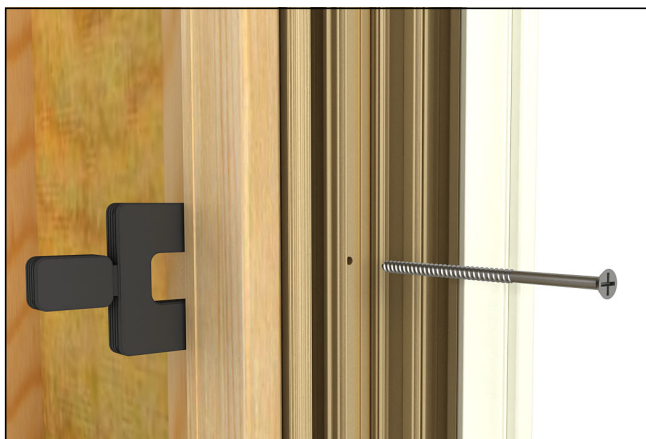

Figure 6
5. Center the window in the opening. Jamb need to be straight and level. Apply #8 X 3" screws until snug through the pre-marked holes, do not over tighten, to permanently secure the unit to the framing members. See figure 6. Do not apply screws to large jamb receiver locating hole.